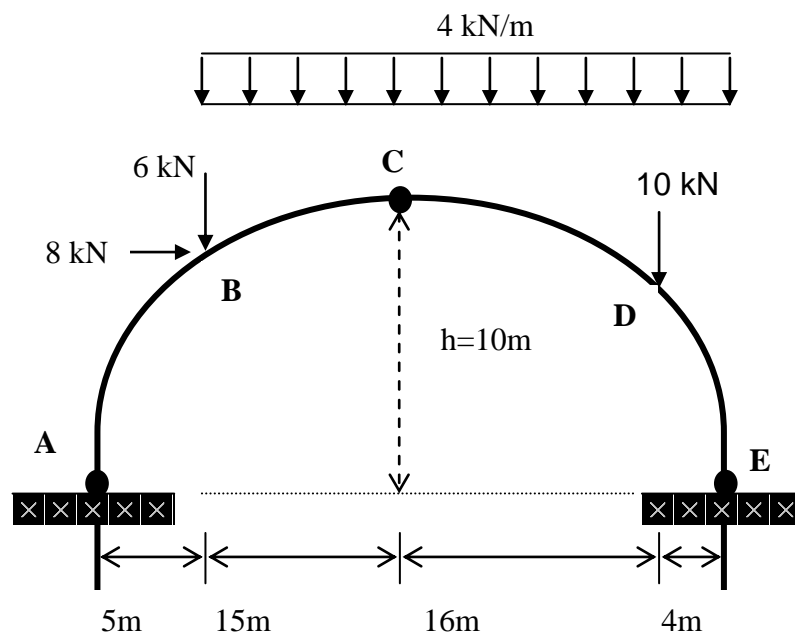

Figure 5
4. A three pinned arch shown in Figure 5 is in the form of  $y = \frac{4hx(L-x)}{L^2}$ .